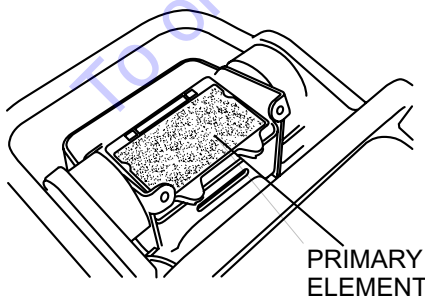

Figure 13. Air Cleaner Primary Element
- Remove the air cleaner cover. Loosen and remove the two screws that hold the cover to the air cleaner assembly. If the primary element (Figure 13) is dirty, wash it with gasoline or kerosene. Then dip it in engine oil (SAE10W-30) and wring the element so that 25 to 30 cc of engine oil remains on the element.